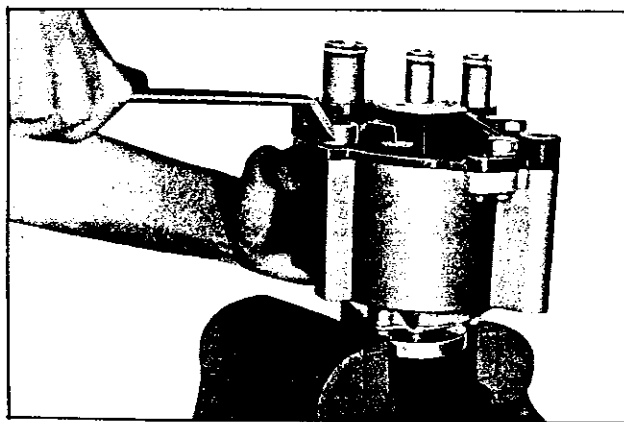

Fig. EC-9 Removing and cover
2. Secure the air drive hub in a vise, as shown in Figure EC-9 and remove four housing end cover bolts.